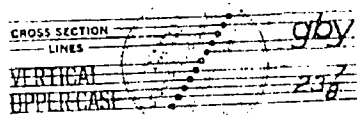

Figure 3
**NUMBERS AND FRACTIONS:** See the lower right side of Fig. 3 for size of fractions in relation to whole numbers.
**FOUR GUIDE LINES:** To assist beginning draftsmen with lower-case letters such as g, j, p, q, and y, it is helpful to use a 4th guide line. Use the top hole, 2nd, 4th, and 5th holes. See the upper right side of Fig. 3. If two sets are desired, go to the 7th, 8th, 10th, and bottom holes.